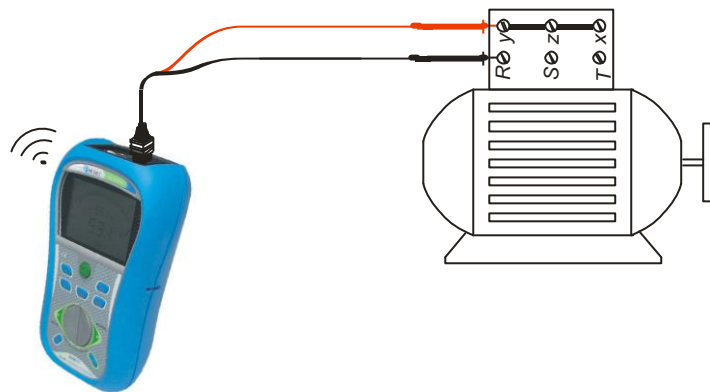

Figure 5.14: 2-wire test lead application
- ❑ **Connect** test leads to the tested object (see **Figure 5.14**).